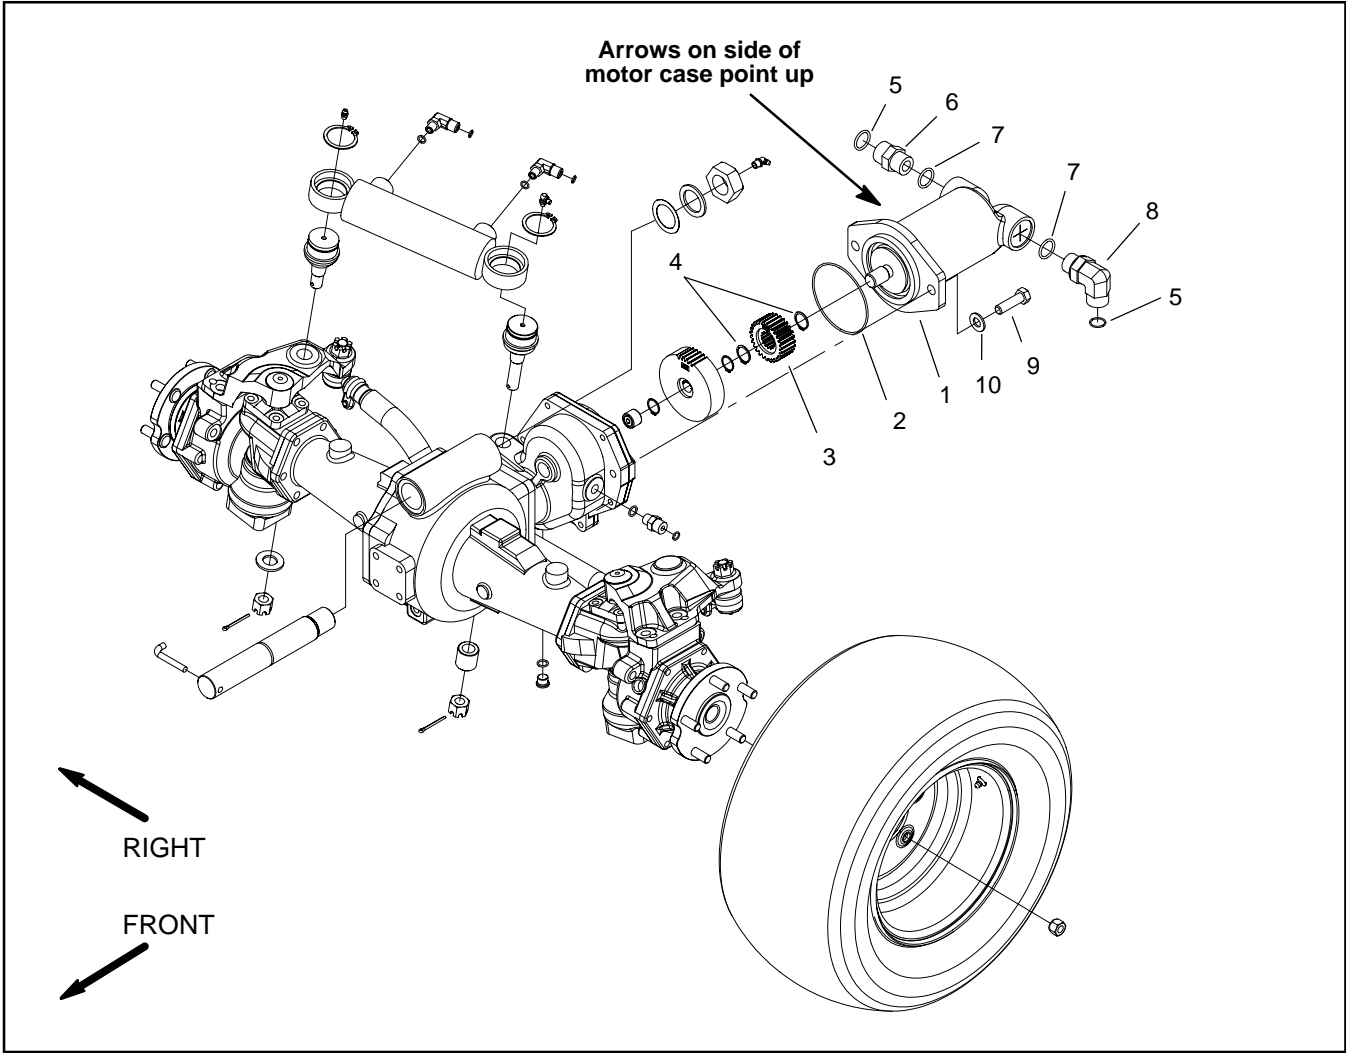

Figure 69
Removal (Fig. 69)
5. Remove motor using Figure 69 as a guide.
Installation (Fig. 69)